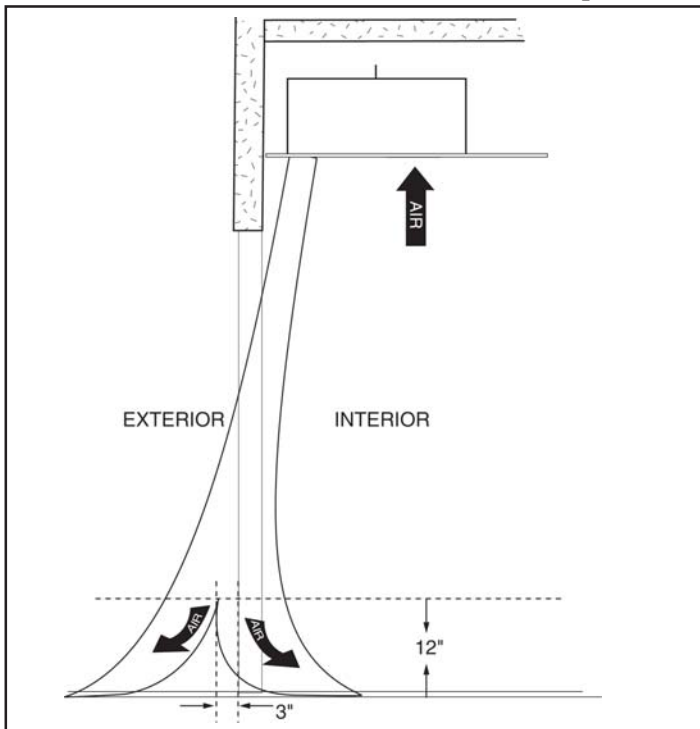

FIGURE 8
B. Find the air stream split location. Hold a handkerchief, by its corners, approximately 12" above the floor. Gently move the handkerchief back and forth in the doorway. Make sure the air is being directed to both the inside and the outside. The split location is indicated where the handkerchief is vertical with minimal or no fluttering. **See FIGURE 8.**